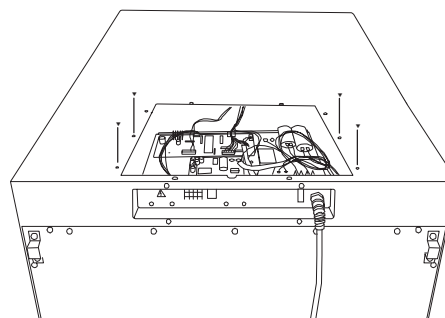

Fig. 2
2. Remove 6 screws fixing the top cover with a screw driver and remove the top cover. (Fig. 2)